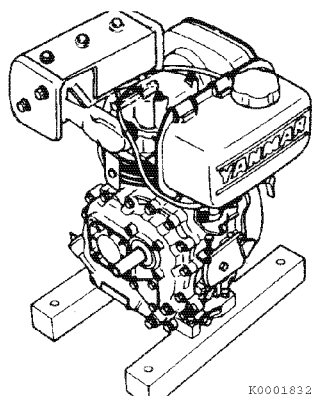

Figure 6-34
7. Remove the engine-mounted fuel tank (if equipped) (**Figure 6-34**).